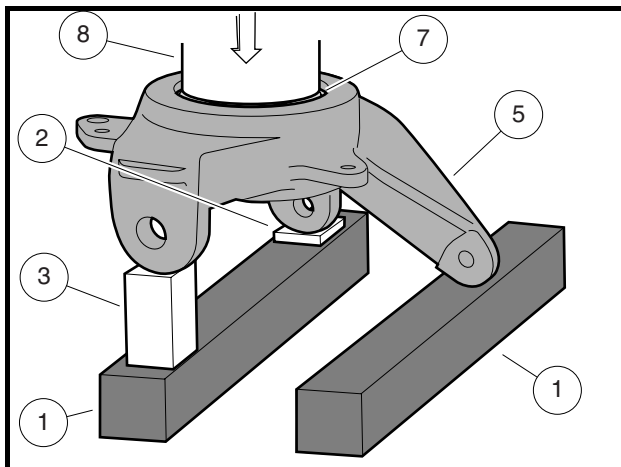

Figure 6-13 Position Upright for Bearing Removal
- 12.1. Position the upright (5) with the two ball joint arms down on one steel block (1) and the drag link arm down on a second steel block (1) (**Figure 6-13, Page 6-12**).